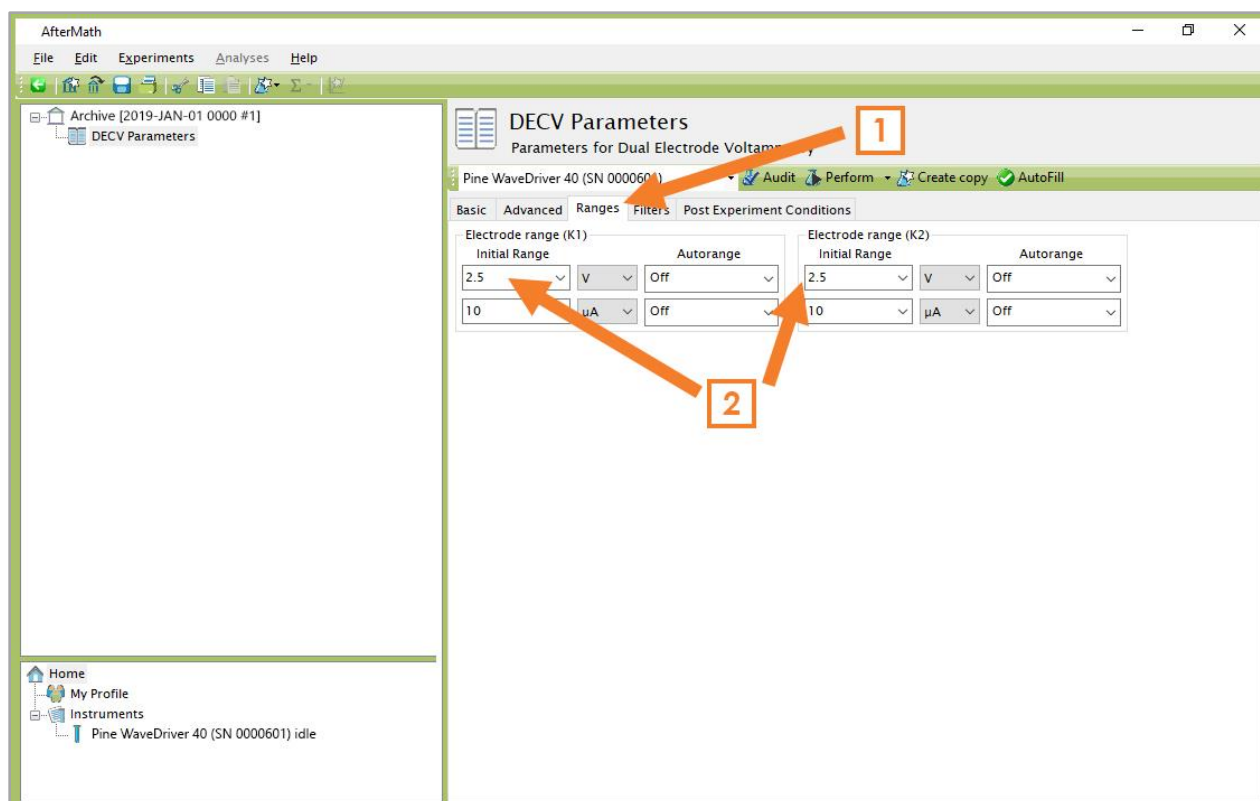

Figure 4-12. Adjusting the Potential Ranges on the “Ranges” Tab (DECV)
1. Click the “Ranges” tab (see Figure 4-12).